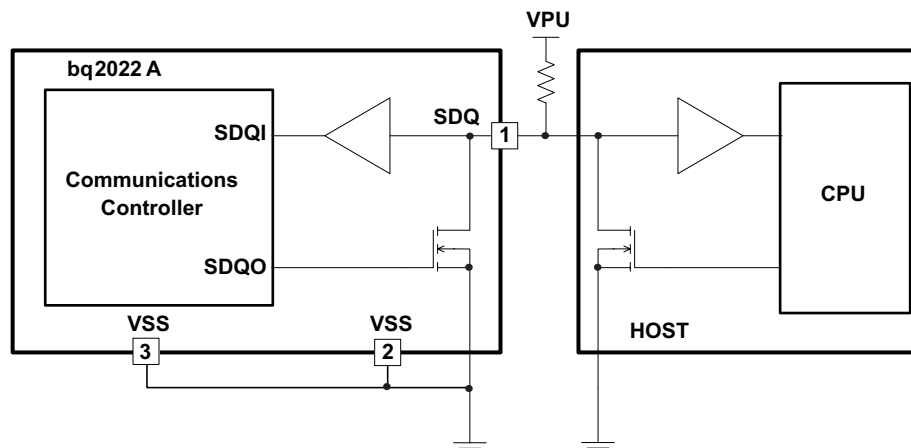

Figure 1. Typical Applications Circuit
(1) 5-k Ω series resistor between SDQ pin and V_{PU} . (See Figure 1)
(2) t_{WDH} must be less than t_c to account for recovery.
Because the drive output of the bq2022A is an open-drain, N-channel MOSFET, the host must provide a source current or a 5-kΩ external pullup, as shown in the typical application circuit in Figure 1.